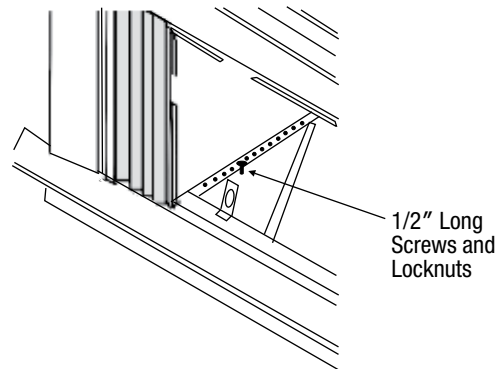

FIG. 16
3. Install support brackets (with sill angle brackets attached) to correct hole in bottom of cabinet as shown in Fig. 16.